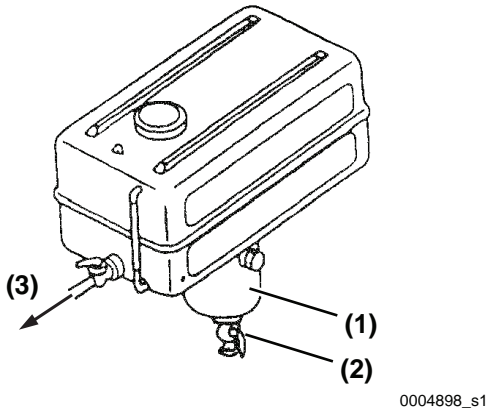

Figure 3-19
Install a drain cock (**Figure 3-19, (2)**) at the bottom of the fuel tank to remove water and contaminants from the sediment bowl (**Figure 3-19, (1)**).